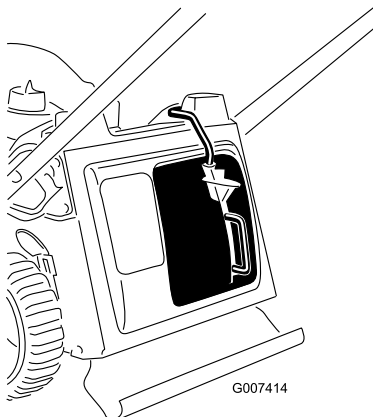

Figure 9
3. Release the button on the lever and ensure that the top of the lever lies fully in the switch channel (Figure 9). **If the top of the lever is not in the switch channel, your mower will not start!**